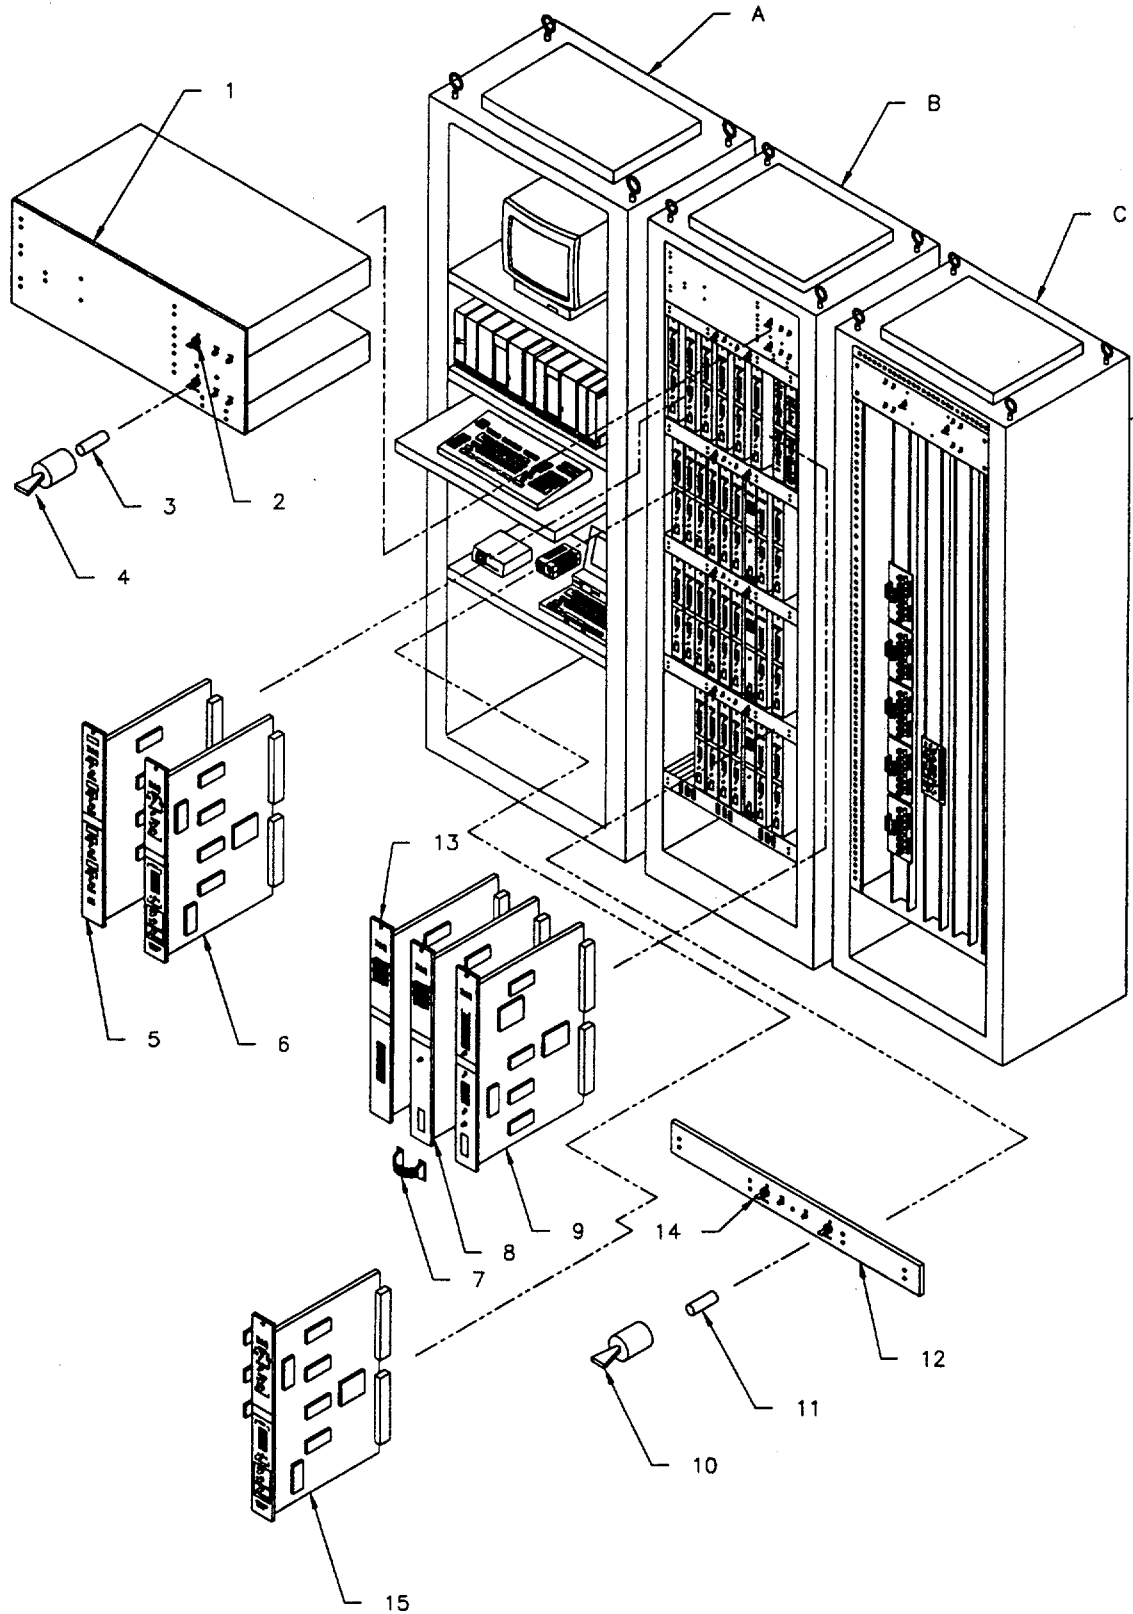

Figure 3-33. Primary Monitor Console Components
- (1) Connect power supply to front panel assembly using four screws (8), washers (9), and nuts (10).
- (2) Connect tagged wires to TB (Item 12).
- (3) Connect tagged wires to input terminal power block. (Item 13)
- (4) Place protective cover (5) over power supply and secure to standoffs (7) using four screws (6).
- (5) Connect power supply ac power cord to ac power source.
- (6) Tie down input/output wiring to power supply, using plastic tie down straps.
- (7) Close rear door on PMC cabinet.
- (8) Place power supply A switch (Figure 3-33, 2) and power supply B switch (4) to on.
**3-28. REPLACE PMC COMMUNICATIONS CABINET + 5 V POWER SUPPLY.** (Figure 3-33 and 3-34).
- (1) Place power supply A switch (Figure 3-33, 14) and power supply B switch (Figure 3-33, 10) to off.
- (2) Open rear door on PMC cabinet B and remove power supply ac power cord from ac power source.
- (1) Secure power supply (3) to side of cabinet B with four screws (4).
- (2) Connect tagged wires to power supply (3) input terminal board.
- (3) Replace protective cover (1) over power supply terminal board and secure with two screws (2).
- (4) Connect power supply ac power cord to ac power source.
- (5) Place power supply A switch (Figure 3-33, 14) and power supply B switch (10) to on.